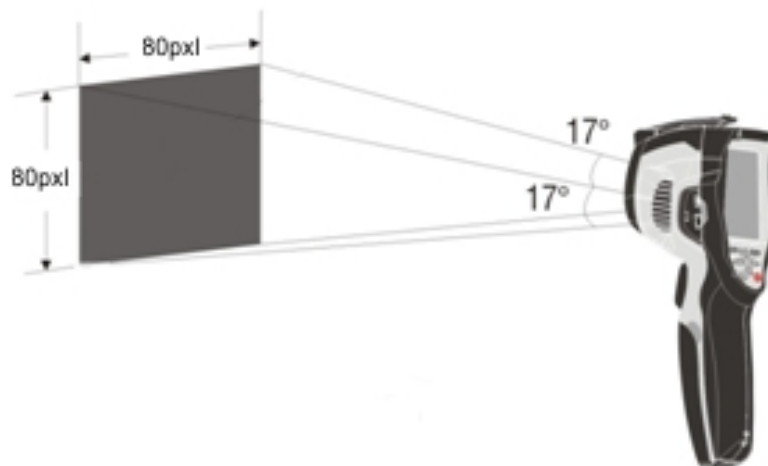

Fig. 30: Representation of the instruments field of view (FOV)
4. For accurate temperature measurements, make sure the surface of the measured object is always bigger than the surface measurable by the instrument, which is given by the instruments field of view (FOV). The instrument has a field of view of $17^\circ \times 17^\circ$ and a detection vector of 80×80 (6400) pxl (see Fig. 30).